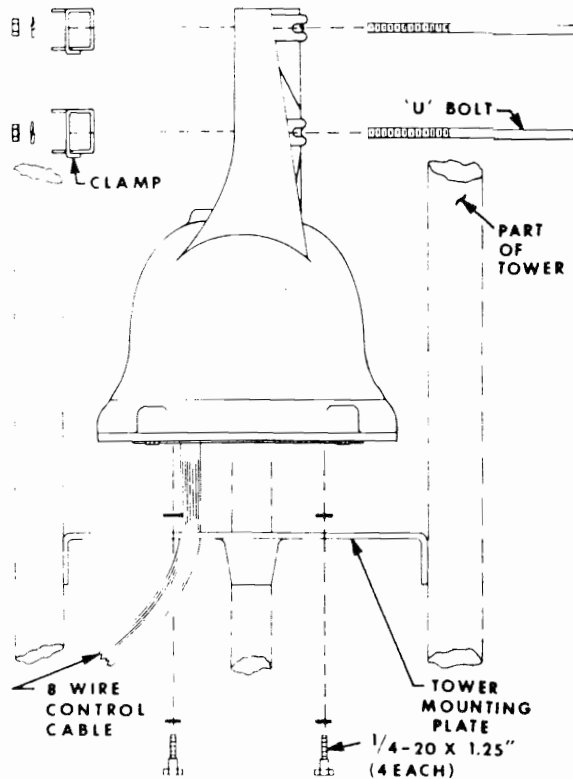

Figure 6. Rotator Mounting in a Tower
3. The rotator is attached to the tower plate by means of four (4) bolts and lockwashers (see Figure 6). The flat tower plate must be drilled in four places unless the tower plate is already properly drilled.
4. Tighten the four (4) bolts but not to final tightness. Observe how the rotator turns. It must rotate in such a manner as to turn the mast concentrically to the top bushing.
5. To assemble the mast to the top of the rotator using the U-bolts, nuts and lockwashers through the rotator and clamp plate as shown in Figure 6. The maximum mast diameter that may be used is $2\frac{1}{16}$ " O.D.. We recommend $1\frac{1}{2}$ " nominal **st.** with a wall thickness of .145". For stacked arrays or very heavy-duty applications, use a heavy-duty wall thickness of .200". Both steel materials should be used to specification ASTM-120.
7. Tighten the four (4) bolts carefully - to approximately 100 inch-pounds of torque.